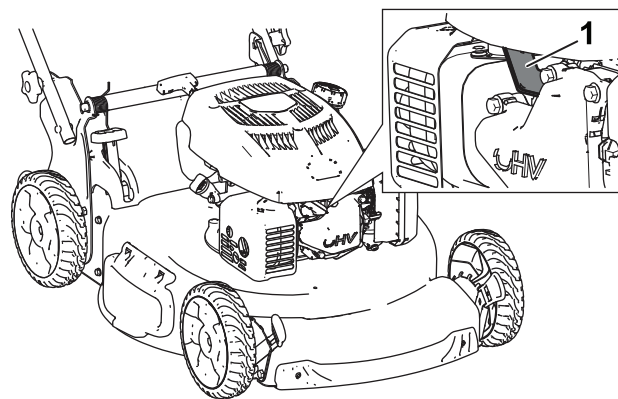

Figure 30
- Disconnect the spark-plug wire from the spark plug (Figure 30).